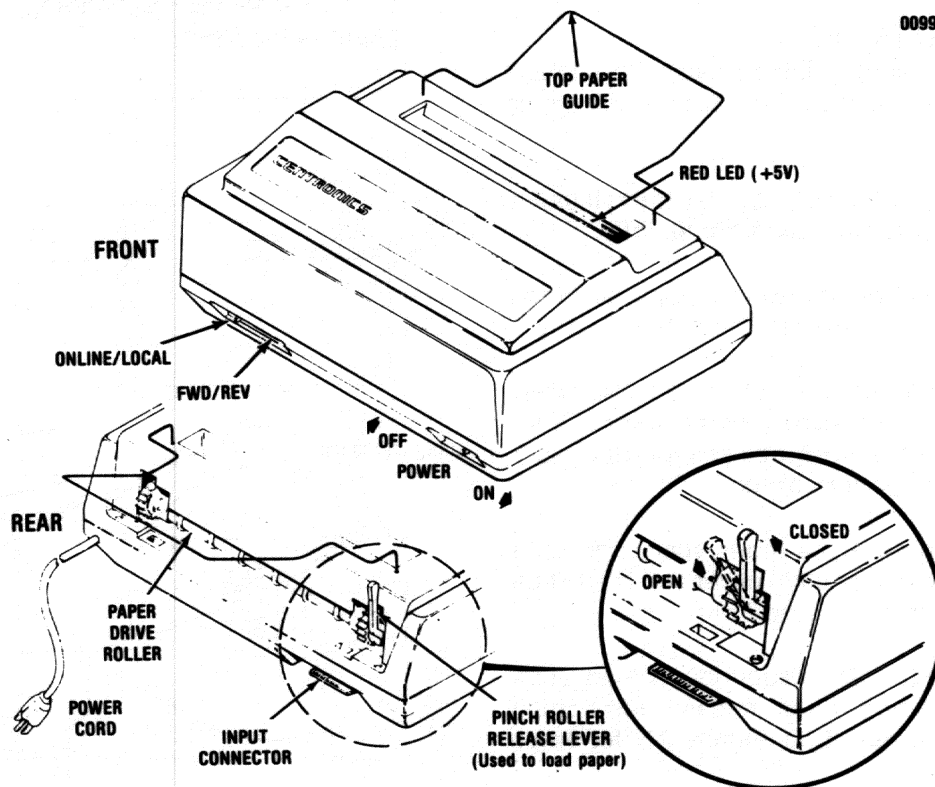

Figure 2-1 Set-Up Procedures
## 2.2 SET-UP PROCEDURES (Figure 2-1)
7. Push the pinch-roller release lever towards rear of printer. (Figure 2-1).